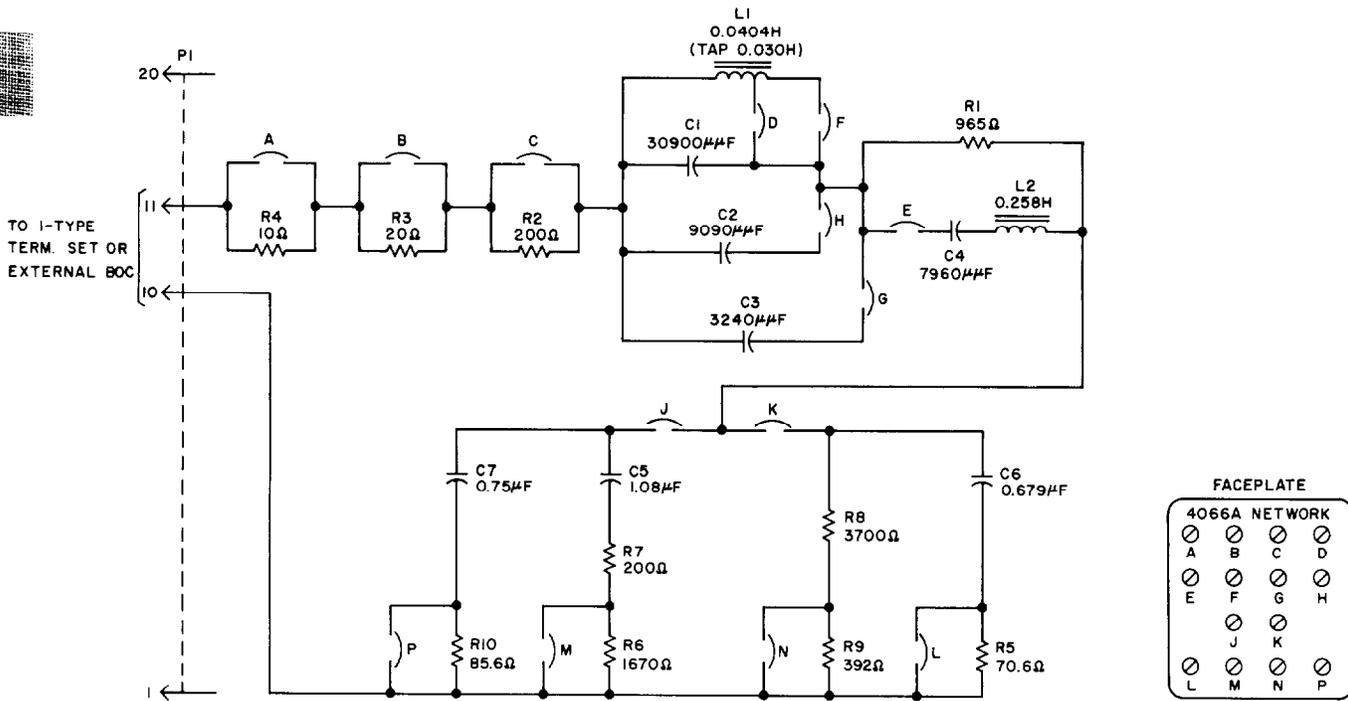

Fig. 2—4066A Network—Schematic
2.02 The 14 screw-type switches are identified on the faceplate by letters A through P, omitting I and O. The components and/or circuits with which the switches are associated are shown in Fig. 2.
3.01 Figure 2 is the schematic of the 4066A network. The circuit consists of resistors, capacitors, inductors, and associated screw-type switches arranged in various series and parallel circuit combinations to provide an adjustable impedance across terminals 10 and 11.